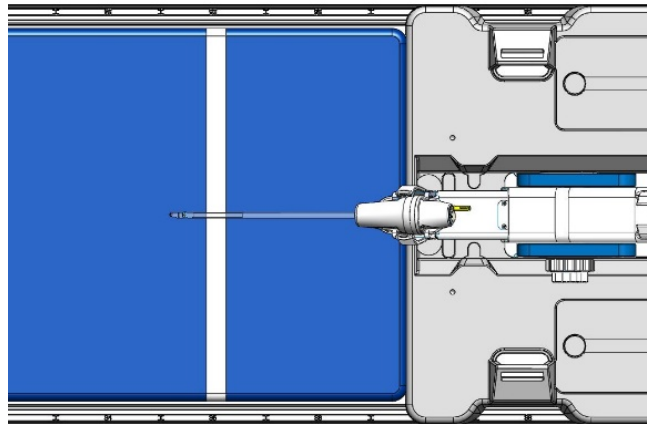

Figure 19: Centering and aligning the coils with the prostate
2. Position the patient on the MRI bed in a head-first supine position so that their sagittal midline is centered from left to right on the MRI table, and their prostate is centered within the treatable area (*Figure 19 [Your configuration might not match exactly as shown]*).